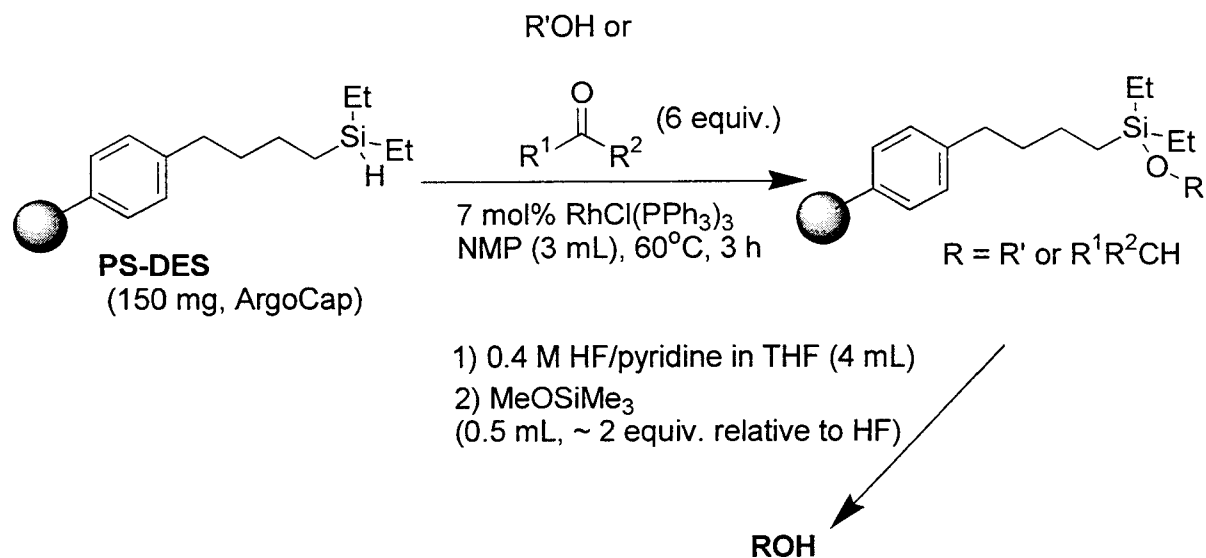

Figure 1. Synthesis of Resin Bound Ethers to Form the Corresponding Alcohol
The objective of the Quest 210 Organic Synthesizer Tutorial is to introduce and familiarize new users to the instrument. The tutorial guides the user through instrument operations using a synthesis as a training vehicle. The reaction scheme for the synthesis is shown in **Figure 1**. All of the materials necessary for the Quest 210 User Tutorial are listed in **Table 1**. Please allow for extra materials so there is plenty of reagent and solvent available for performing the syntheses.
* Due to lot differences in the PS-DES resin, the amount of solvents and reagents required for this tutorial may be different from the amounts shown in Table 1. Refer to Figure 1 and the lot information supplied with the PD-DES ArgoCaps to calculate the materials necessary for your synthesis.